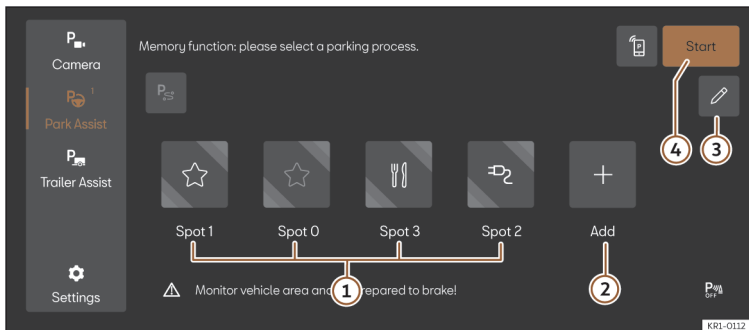

Fig. 146 Schematic representation: Parking system menu with memory function.
4. Select the function button, assign the symbol you want (>>> **Fig. 146 ①**) and confirm it.
2. If necessary, click on the parking space available icon in the Parking System menu >>> **Fig. 146** ①. The function button will be displayed in copper.
3. Press the **Start** button >>> **Fig. 146** ④.